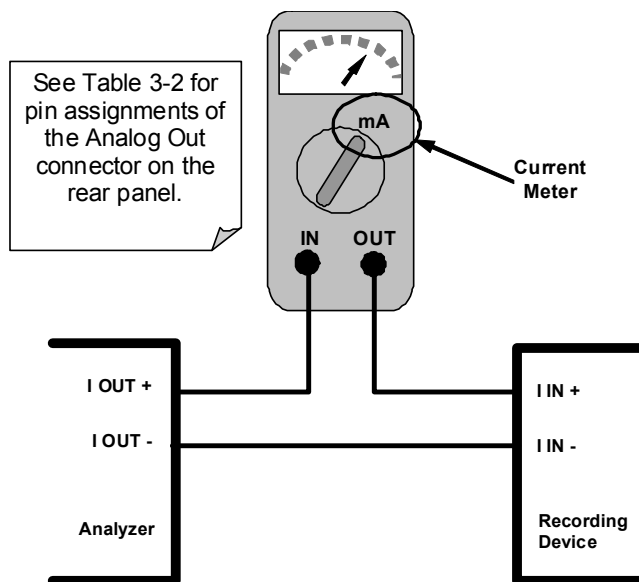

Figure 4-12: Setup for Calibrating Current Outputs
- In this case calibration is performed with a current meter connected in series with the output circuitry (See Figure 4-12).